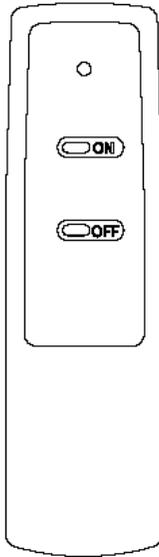

FIGURE 1
4. Press ON button located on the remote control transmitter (FIGURE 1). This will synchronize the remote control transmitter and receiver.